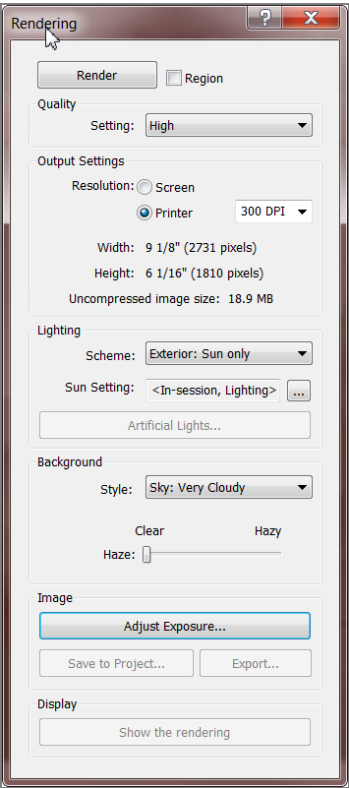

FIGURE 19.5: The Rendering dialog box
3. In the Background category, set Style to Sky: Very Cloudy (see Figure 19.5).